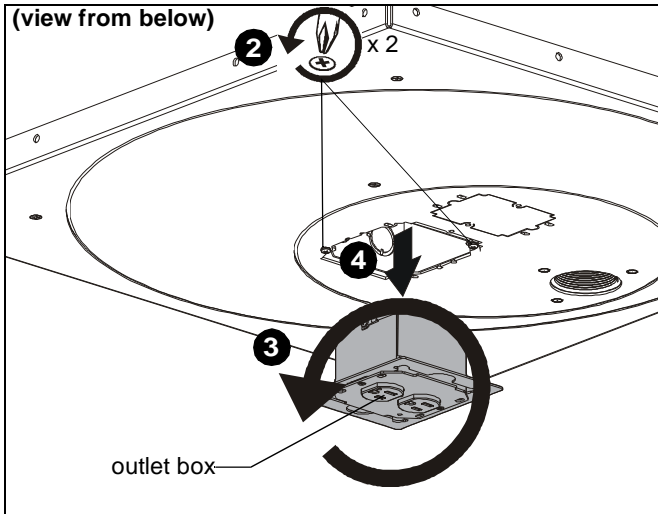

Figure 2
- Loosen but do not remove two Phillips head screws holding outlet box to outer housing. (See Figure 2)
- Rotate outlet box counter-clockwise until it is free to be removed from housing. (See Figure 2)
- Remove outlet box from housing. (See Figure 2)